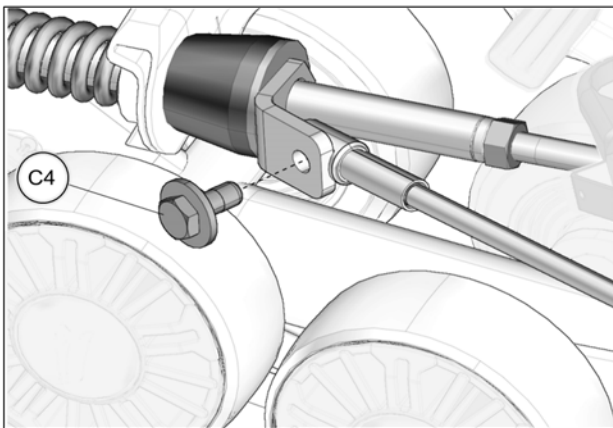

Fig. 36
20. Reverse steering wheel a little to be able to bolt support plate and cable together. Tighten provided bolt (C4) to 35 N•m [24 lb•ft]. See Fig. 36. Repeat steps on right side.